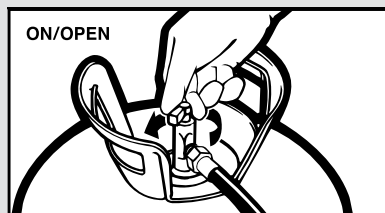

Figure 2
3. Turn the tank valves on fully (See Figure 2), noting the initial movement of chemical through the clear hoses as a confirmation of flow.